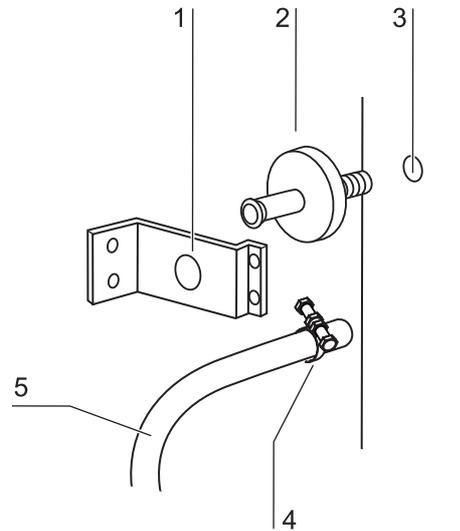

Fig.21: Sterile filter replacement
2. **Fig.21:** Loosen hose clamp [4].